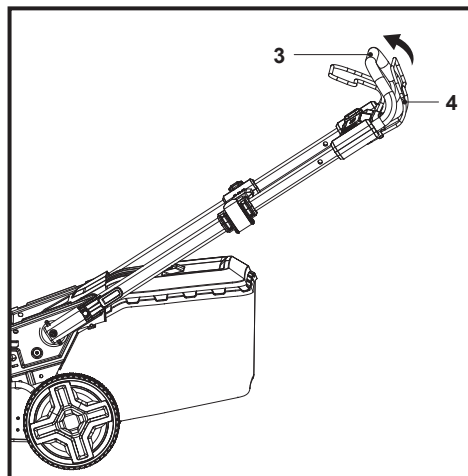

Fig. 19
1. Push the self-propelling lever (4) forward and hold it against the grip handle (3) to engage the rear wheels (21) (Fig. 19).
2. Release the self-propelling lever (4) to disengage the rear wheels (21).